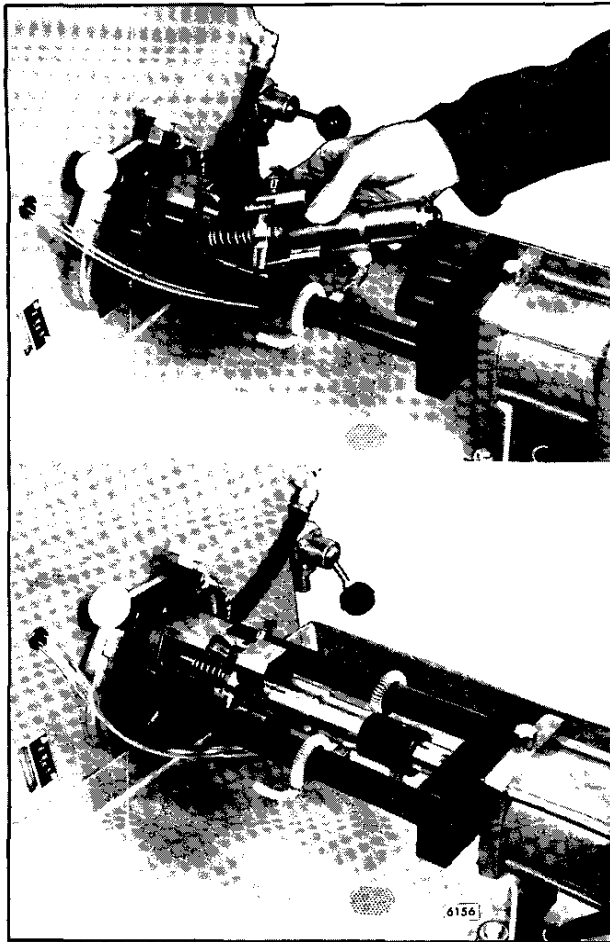

Fig. 12 - Placing Injector and Adaptor in Calibrator.
2. Place the injector and adaptor assembly J 22410-520 into the adaptor J 22410-562 (cradle handle in horizontal position) as shown in Fig. 12. Clamp the injector into position by operating the air valve.